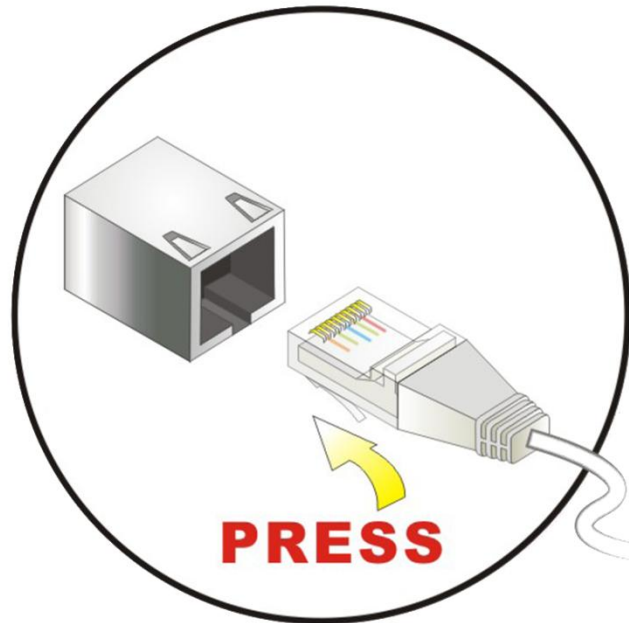

Figure 6 – LAN Connection
Step 2: Align the connector. Align the RJ-45 connector on the LAN cable with the RJ-45 connector on the bottom panel of the TSM1330C. See Figure 6.